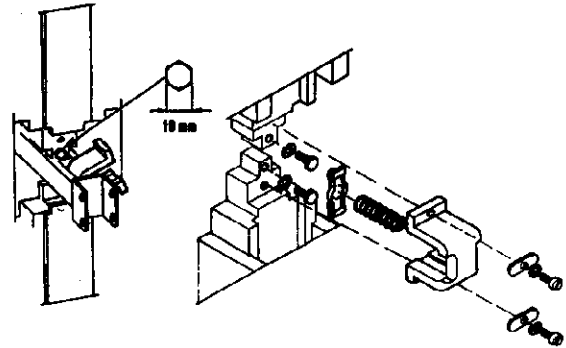

Figure 7 - Damper Contact Renewal
4. Remove contact guide bracket, return spring, and movable contact by removing the 2 mounting screws. See Figure 7. Tilt the guide bracket as shown to remove.
NOTE: The damper contacts should be replaced when the main contacts are renewed. See "Renewal of Damper Contacts" and Figure 7.